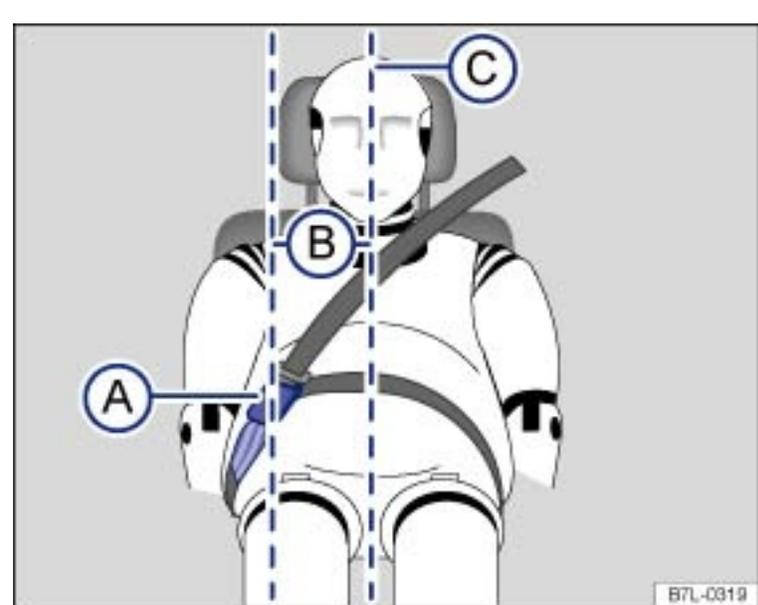

Fig. 66 Positioning of the safety belt extender.
Key to → Fig. 66:
- Never use a safety belt extender if the distance (B) between the front edge of the safety belt extender buckle (A) and the centerline of the person using the safety belt extender → Fig. 66 © is less than 6 inches (15 cm).